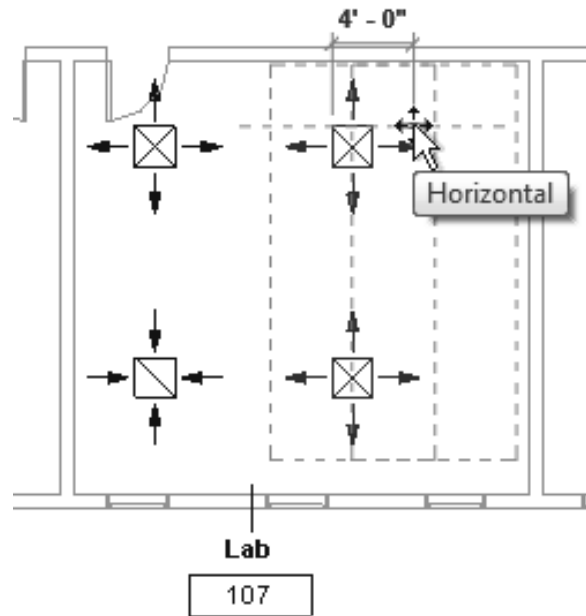

Figure 2-62
11. Select a base point on one of the air terminals and then use temporary dimensions to move the air terminals **4'-0"** to the right, as shown in Figure 2-62.